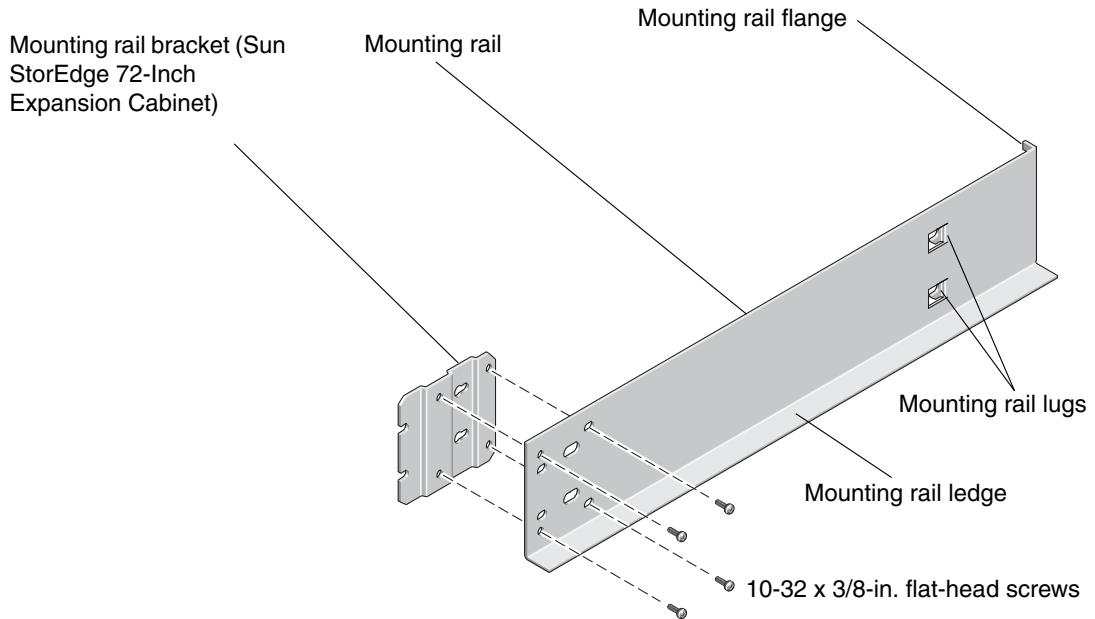

FIGURE 4-2 Mounting Rail Assembly (One of Two) for the Cabinets
One of two Sun StorEdge 72-Inch Expansion mounting assemblies, consisting of a mounting rail and bracket, is shown in FIGURE 4-2. When mounted, the director rests on the mounting rail ledge.
1. Assemble the mounting rail and mounting rail bracket as shown in FIGURE 4-2.